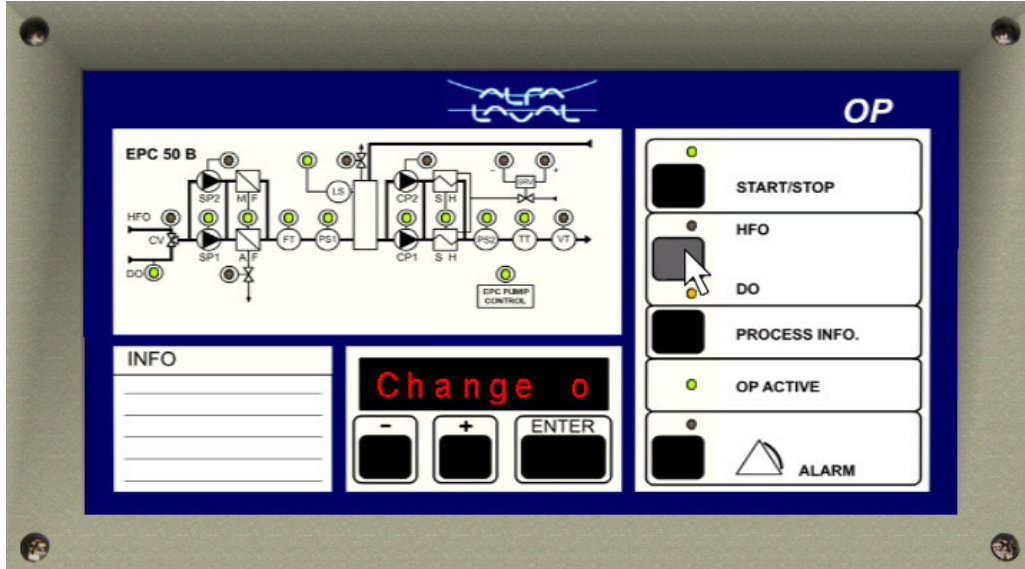

Fig. 35. Changing oil mode
1. Press the DO / HFO button (fig. 35).